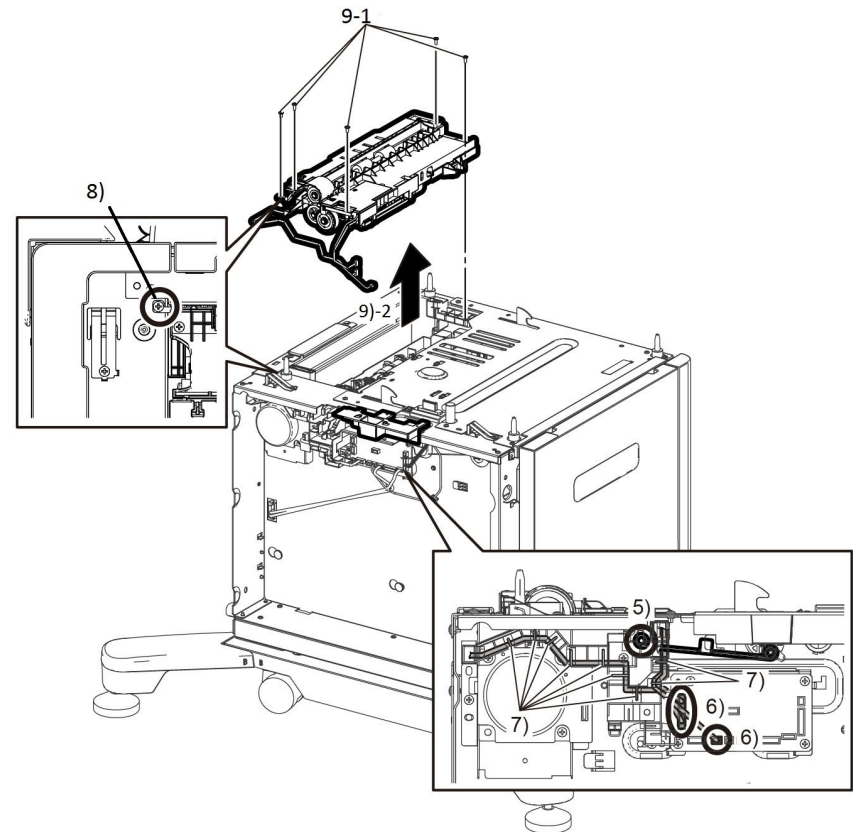

Figure 1 Feeder removal
8. Remove one screw and the ground plate on the feeder, Figure 1.
9. Perform the steps that follow, Figure 1: